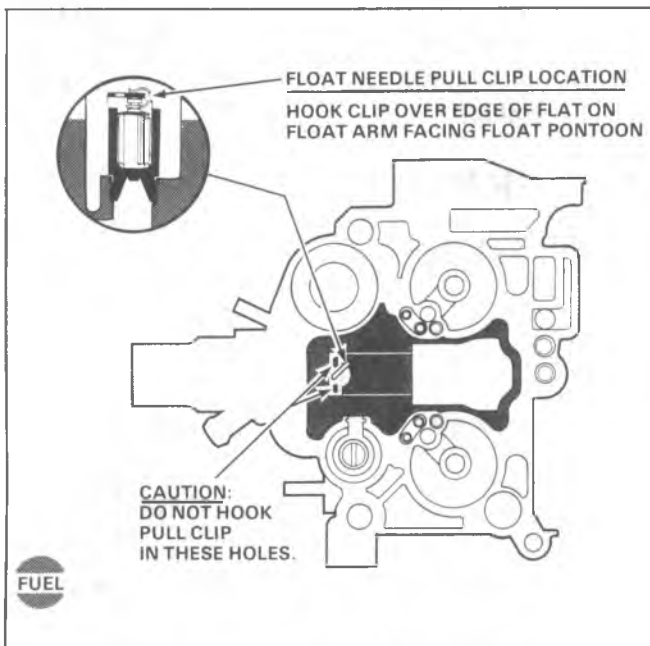

Fig. 6C3-32--Pull Clip Location
7. If metering rods were removed from hanger, reinstall making sure tension spring is connected to top of each rod (Fig. 6C3-23). Install power piston assembly in well (aligning pin on piston with slot in well) with metering rods properly positioned in metering jets. Press down firmly on plastic power piston retainer to make sure the retainer is seated in recess in bowl and the top is flush with the top of the bowl casting. If necessary, using a drift punch and small hammer, tap retainer lightly in place.